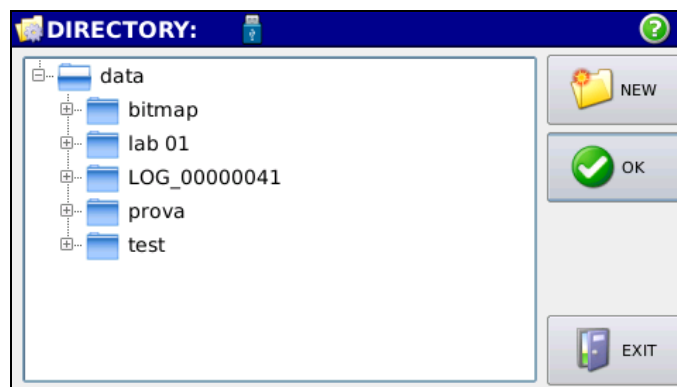

*Fig. 4.8: Storage screen after selection of the USB device as working memory*
4.3 Press  to select the USB device as default storage memory. If the USB device is not present, the message USB NOT PRESENT will appear. If the device is properly installed, the screen will appear as in Fig. 4.8,